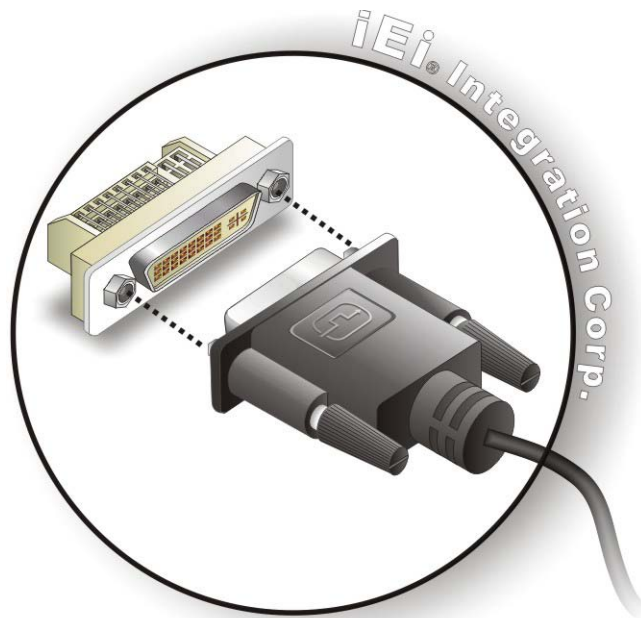

Figure 4-5: DVI Connector
Step 3: Insert the DVI connector. Once the connectors are properly aligned with the male connector, insert the male connector from the digital display device into the female connector on the HYPER-KBN. See **Figure 4-5**.